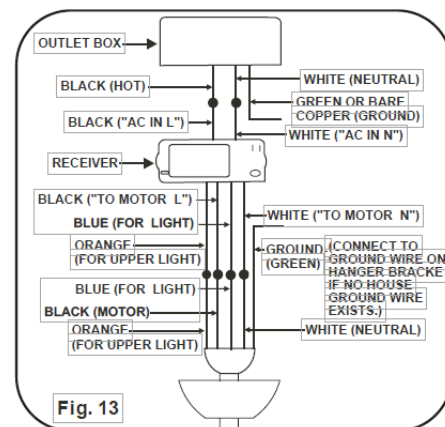

Fig. 13
NOTE: If your ceiling fan features an UP Light, connect the ORANGE wire from the fan to the ORANGE wire marked "For Up Light" from the Receiver. Otherwise, disregard this step and proceed to secure all wire connections with the plastic wire nuts provided. (Fig. 13)
Step 3. Receiver to House Supply Wires Electrical Connections. Connect the WHITE wire (Neutral) from the outlet box to the WHITE wire marked "AC in N" from the receiver. Connect the BLACK wire (Hot) from the outlet box to the BLACK wire marked "AC in L" from the receiver. Secure all wire connections with the plastic wire nuts provided. (Fig. 13)
Step 4. If your outlet box has a GROUND wire (Green or Bare Copper) connect this wire to the Hanger Ball and Hanger Bracket Ground wires. If your outlet box does not have a Ground Wire, then connect the Hanger Ball and Hanger Bracket Ground Wires together. Secure wire connection with the plastic wire nut provided. (Fig. 13) After all splices are made, check to make sure there are no loose strands. As an additional precaution, we suggest to secure the plastic wire connectors to the wires with electrical tape.